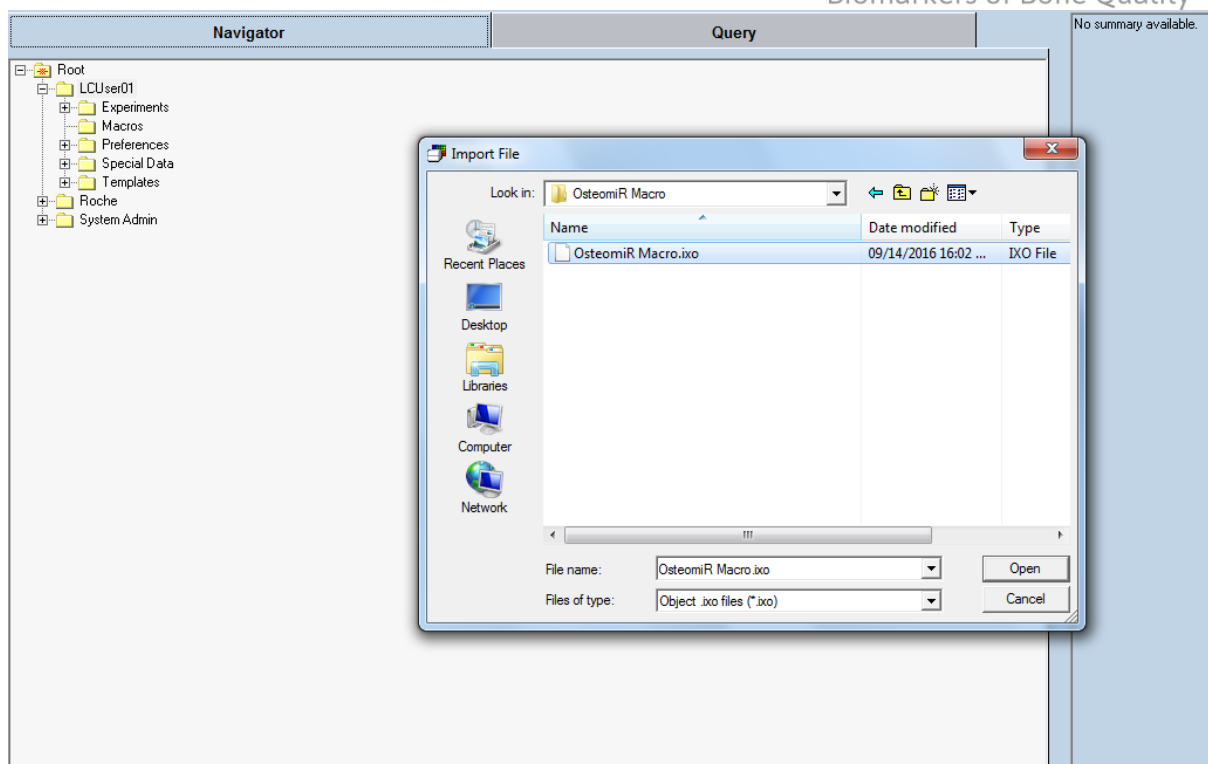

Figure 2: Select osteomiR™ Macro for import.
5. Go to the folder where you have stored the osteomiR.ixi file you received via email and select it (Fig. 2).